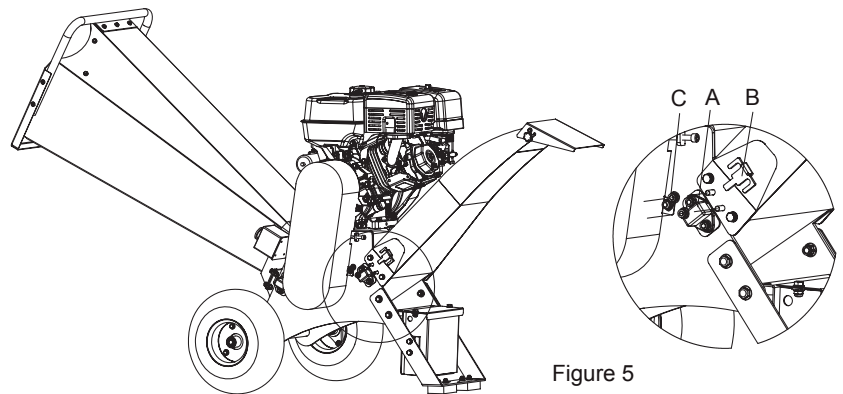

Figure 5
**INSTALL INSERTING PIECES - FIG 5**
1. Insert the Inserting piece (B) into the slot of the switch box (A).
2. Fix the Inserting piece with the two flange M8 nuts (C).